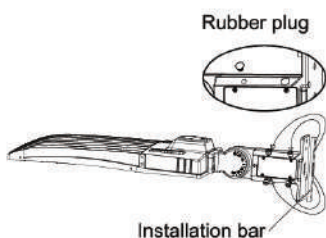

Figure 26
Step 1: Remove the four bolts from A&D bracket, remove the four rubber plugs from installation bar, put the four rubber plugs on the place where the four bolts were previously placed on the bracket for waterproof purpose (Figure 26)